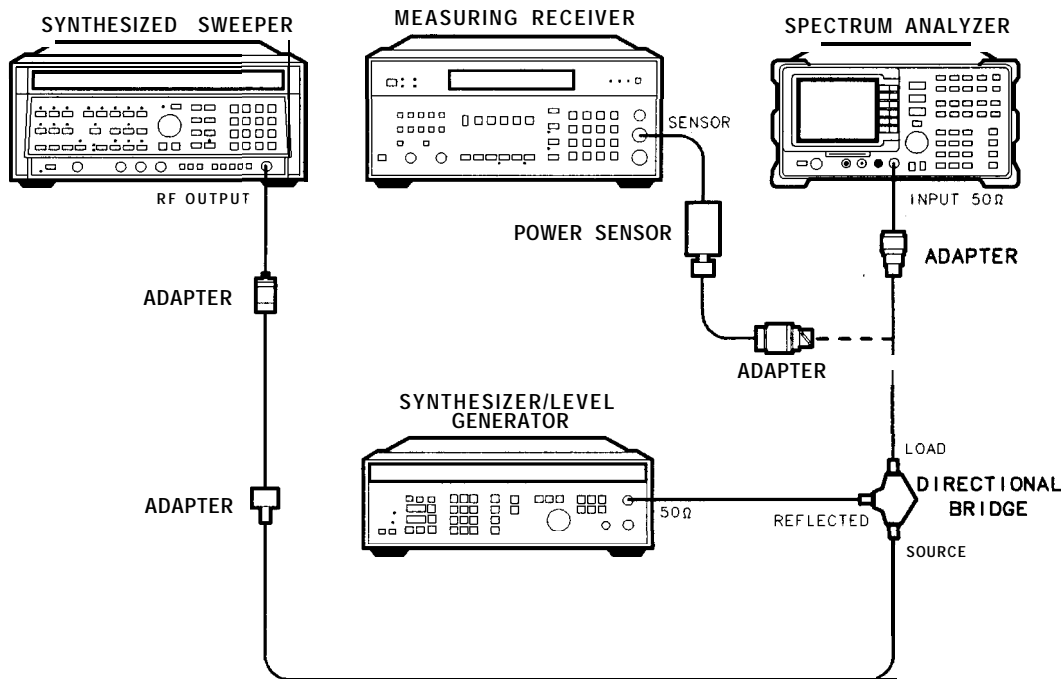

Figure 1-20. Gain Compression Test Setup
2. Connect the equipment as shown in Figure 1-20, with the load (reflected) of the directional coupler connected to the power sensor.